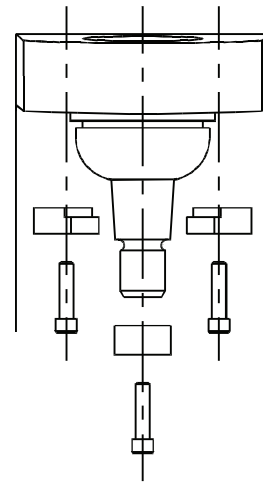

Figure 26 - Press-In Mount Upper Ball Joint Retainer Clips
5. Loosen socket head cap screws and remove the retainer clips. (See Figure 26).